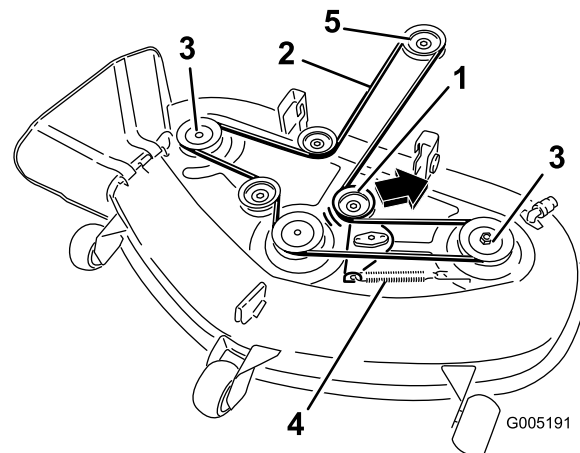

Figure 45
- 5. Pull the idler pulley in the direction shown in Figure 45 and roll the belt off of the pulleys.
- 6. Route the new belt around the engine pulley and mower pulleys (Figure 45).
- 7. Pull the idler pulley in the direction shown in Figure 45 and route the belt onto the idler pulley (Figure 45).